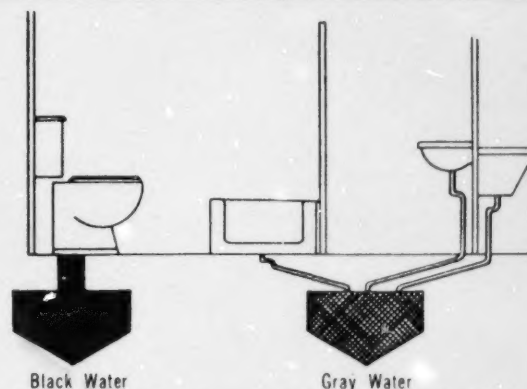
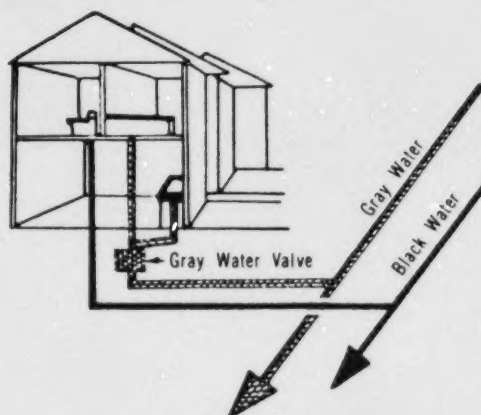

Figure 37-25. Conventional Gravity System
Figure 37-29. Option C — Black Water and Gray Water Transported by Vacuum in Separate Pipes For Separate Treatment or Disposal
83. The conventional gravity system uses the standard flush toilet, which requires from 18 to 23 L of clean water for each flushing. This high volume is needed to flush the solids through the gravity sewer mains, and accounts for at least 50 per cent of the total household water consumption. (See Figure 37-25.)
92. This type of installation (Figure 37-29) is usually made where sewage treatment must be done locally. Through the use of the vacuum toilet, the highly contaminated black water, when collected separately, is reduced to 5 per cent of the sewage volume in a conventional gravity system (refer to Figure 37-25).
93. This very low volume of black water can be efficiently and economically treated with a chemical process in a Vacusan lime-batch treatment plant. (See Figure 37-29.)